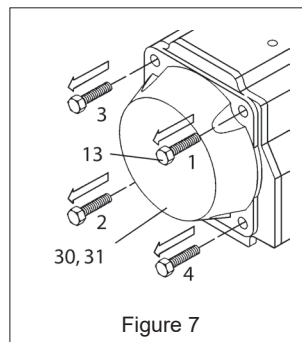

Figure 7
3. End Cap (30, 31) Disassembly, (Figure 7):
- a) Remove the end cap bolts (13) in the sequence shown in (Figure 7).